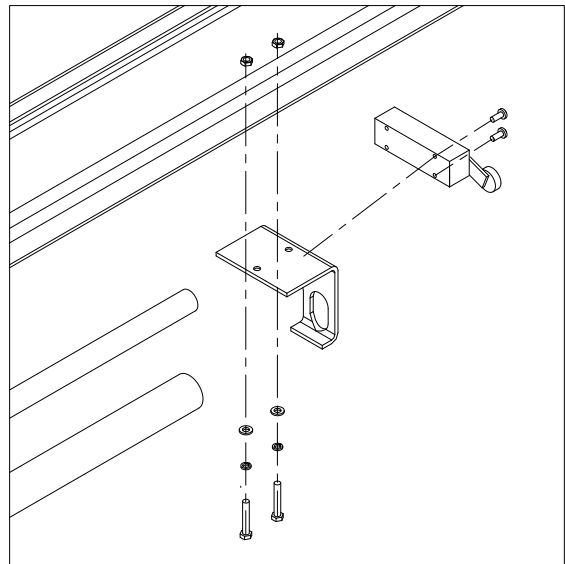
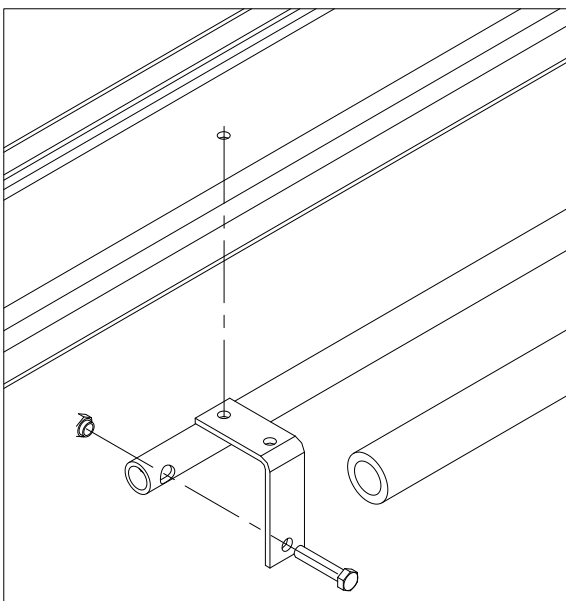

Fig. 33
Fig. 32
- ◆ Install the safety bar according to **Fig. 32** and **Fig. 33**.